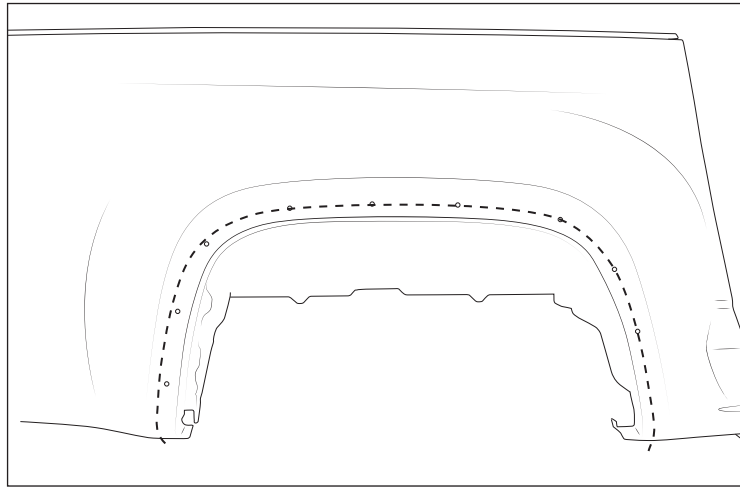

Figure 18
4. While the template is aligned with the fender, mark sheet metal along solid line as directed on template. Within the advised regions, mark the area where you will drill your holes that will be used to install spacers (fig. 18).